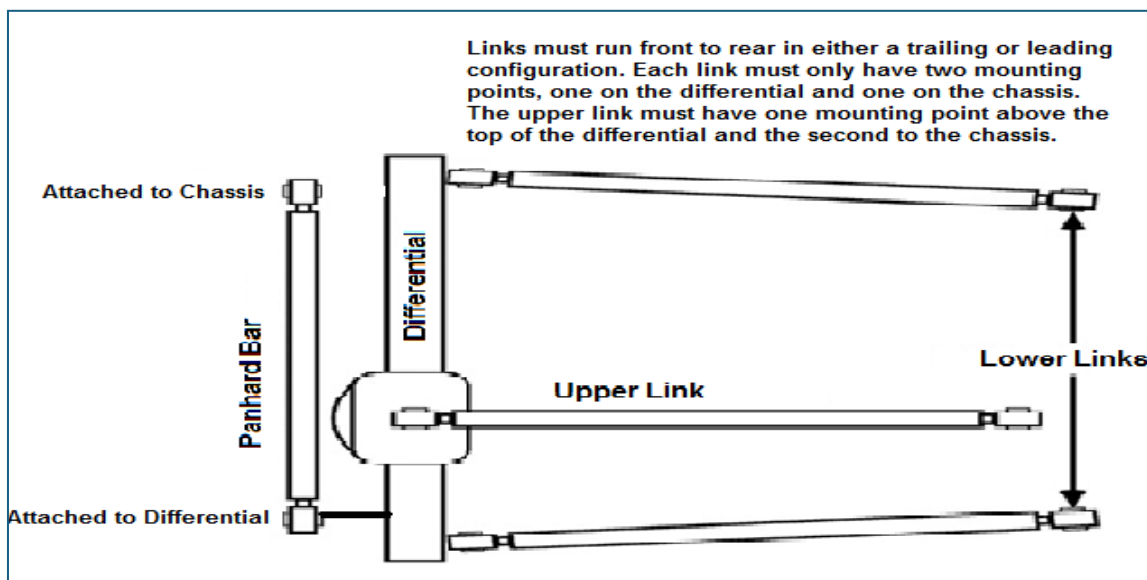

Figure 18
- 25.4 The only rear suspension allowed is the three-link design which consists of two lower control-arms and one upper pull bar. These control the up and down movement of rear end (*Figure 18*). One Panhard bar or J-Bar is allowed for the side-to-side location of the rear end. No sliding Panhard bar allowed.